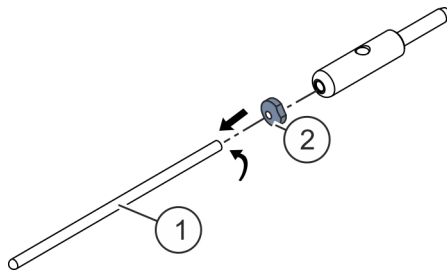

Fig. 13: Screw the needle pusher onto the new valve needle
8. ➔ Screw the needle pusher (Fig. 13/2) onto the new valve needle (Fig. 13/1).